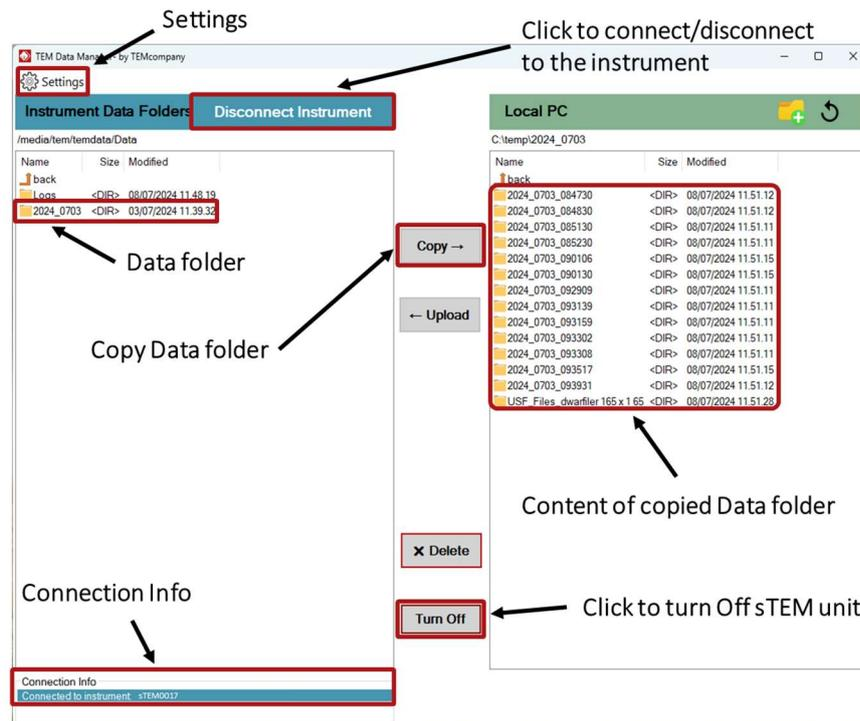

Figure 21. Steps for copying data from sTEM unit (after connecting to the instrument).
- Press *Connect to Instrument* to display the data folders on the sTEM unit (Figure 21).
- Data from a station is placed in sub-folders with a data-time name (yyyy_mmdd_hhmmss) and should contain one stb-file and one stn-file (Figure 21).